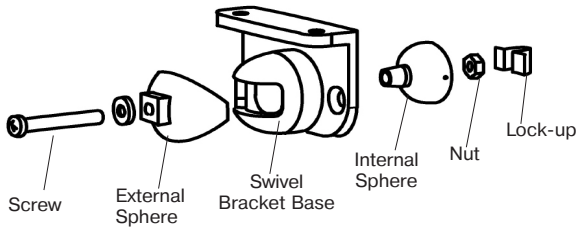

Figure 3 – Swivel Bracket Components
- Fix the base of the detector at the chosen place. In case of mounting on the swivel bracket (Figure 3), unscrew the cap screw (M3x20 available) from the swivel bracket sphere. Keeping hold the swivel bracket assembled, fit the square bulge of the swivel bracket external sphere with the corresponded opening on the detector base. Plug in the screw into the opening in the top of the detector base and fix the connection by the screw with the forcing, ensuring the base rotation about the swivel bracket.